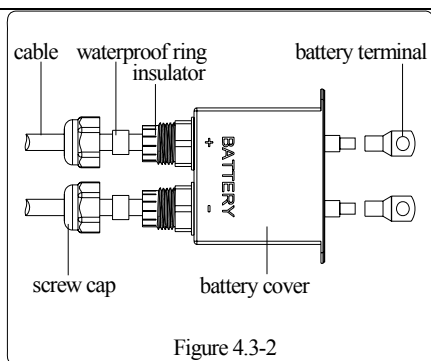

Figure 4.3-2
5. Put the cable through the components in this order: screw cap, waterproof ring, insulator, battery cover and battery terminal. Refer to Figure 4.3-2.